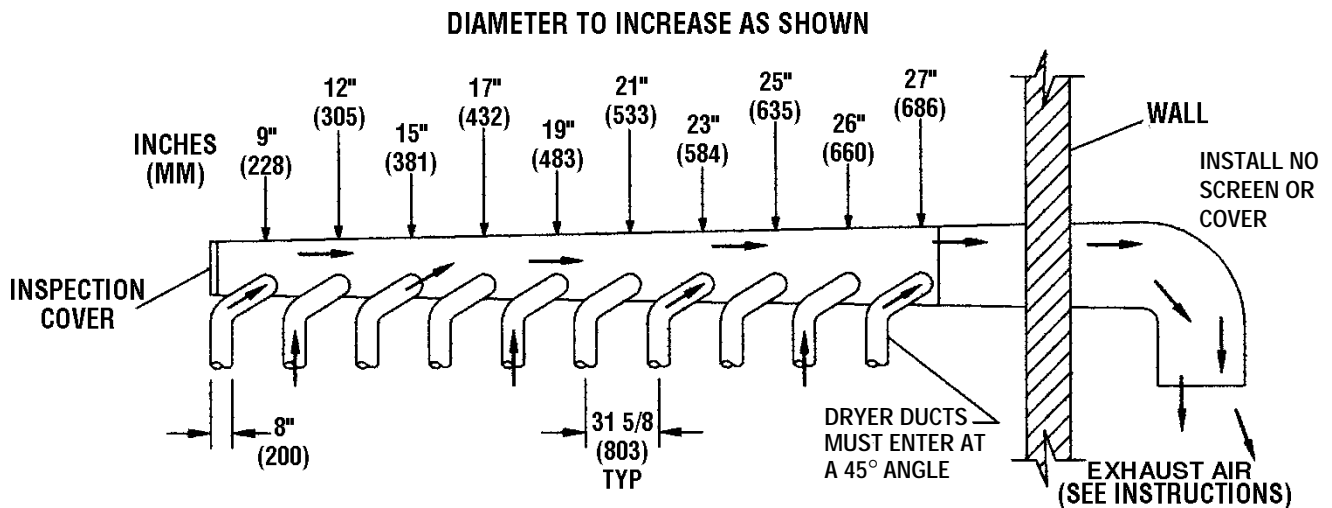

Figure 2 - Dryer Exhausting Using A Main Discharge Duct.
DRYER EXHAUST SYSTEM (Figure 2) .....	6, 7
6. EXHAUST INSTALLATION. (Refer to Figure 2 at the end of section 6.) Exhausting of the dryer(s) should be planned and constructed so that no air restrictions occur. Any restriction due to pipe size or type of installation can cause slow drying time, excessive heat, and lint in the room.
Installation of several dryers where a main discharge duct is necessary, will need the following considerations for installation (see Fig. 2). Individual 8" ducts from the dryers into the main discharge duct should be at a 45 degree angle in the direction of discharge air flow.
**NOTE:** Never install the individual 8" ducts at a right angle into the main discharge duct. The individual ducts from the dryers can enter at the sides or bottom of the main discharge duct. Figure 2 indicates the various round main duct diameter to use with the individual dryer ducts. The main duct can be rectangular or round, provided adequate air flow is maintained. For each individual dryer, the total exhausting (main discharge duct plus duct outlet from the dryer) should not exceed the equivalent of 20 feet (6m) and two elbows. The diameter of the main discharge duct at the last dryer must be maintained to exhaust end.